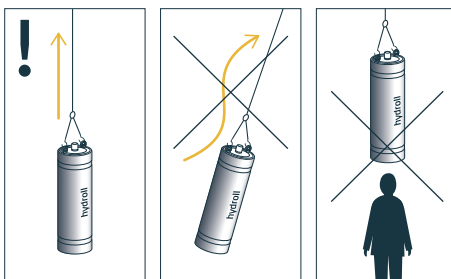

FIGURE 5.1 Hoisting points
5. Hoisting points: In case accumulator has two threaded holes (M12) at each end of the accumulator to enable the mounting of lifting eyes or hoisting rings. See the figure 5.1.